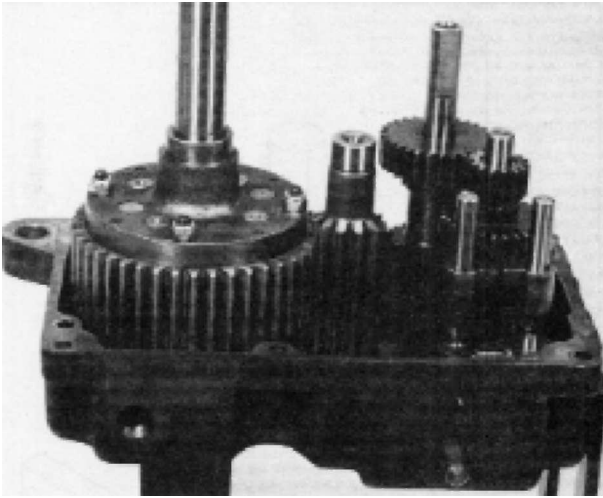

FIGURE 19
18. Install the differential and axle assembly with the retaining bolt nuts **up** toward the left hand case. Figure 19.